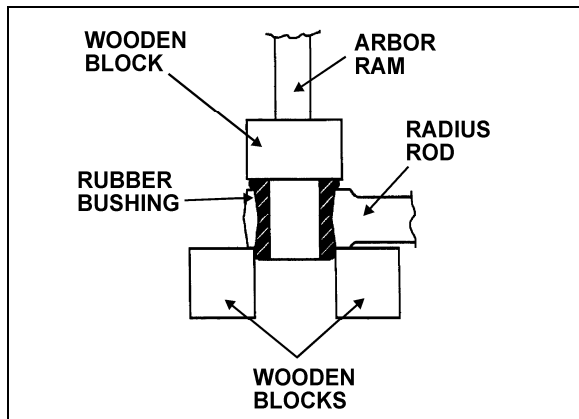

FIGURE 20: RADIUS ROD BUSHING INSTALLATION 16012
2. Safely support the radius rod, and place new bushing on top of the radius rod end (Fig. 20).